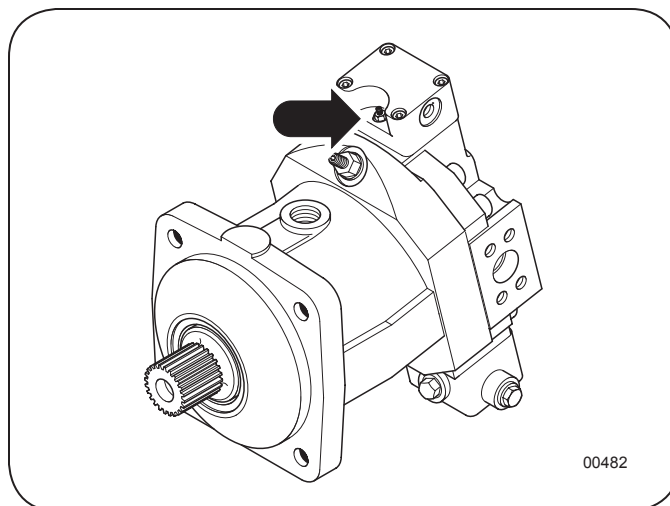

Figure 20: Wheel Drive Motor Begin Of Stroke Adjustment
13. Locate the begin stroke adjustment setscrew on the motor. See Figure 20. Use the 10mm wrench and 3mm allen wrench to loosen the jamnut and back the setscrew out COUNTER-CLOCKWISE a few turns. This will allow easier setting of the motor.